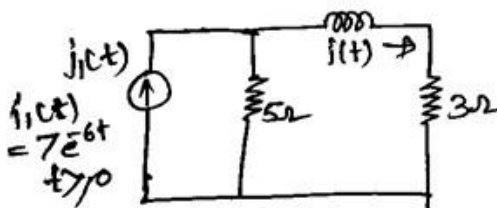

fig 6.2
23. In the network shown in fig 6.2 the capacitor C_1 is charged to voltage $V_0 = 1000v$ and the switch K is opened at $t=0$. solve for d^2i_z/dt^2 at $t=0^+$